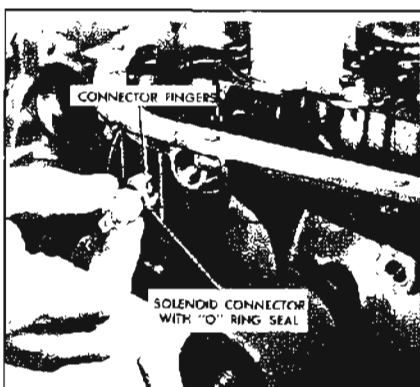

Figure 5-520
5. Compress fingers on connector and withdraw connector and "O" ring seal. See Figure 5-520.